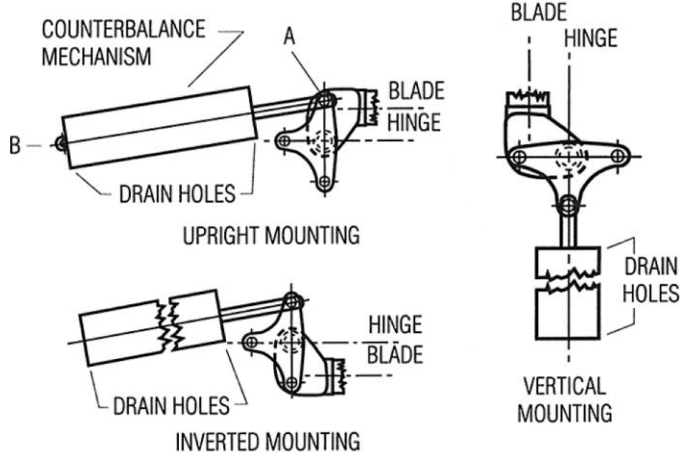

Fig. 18 Positions of Blade Counterbalance Mechanism
For voltage or current ratings in which blades are counterbalanced, Fig. 18 shows proper connections and the proper location of the drain holes for the various switch mountings. The counterbalances are assembled at the factory for the mounting positions as required for each installation. If it is necessary to change the mounting position of the switch in the field, the counterbalance position must be changed, as described below.
3. While maintaining a good hold on the blade with your hand, carefully open the blade a few more degrees or enough to relieve pressure. Remove pin A (Fig. 18) which attaches the plunger to the blade hinge casting. Since this pin is larger in diameter at the center and two shoulders hold it in place, the pin may be a bit difficult to remove.
4. Remove pin A (Fig. 18) which attaches the plunger to the blade hinge casting. Since this pin is larger in diameter at the center and two shoulders hold it in place, the pin may be a bit difficult to remove.
5. Remove pin B (Fig. 18) at the rear of the counterbalance. The unit is now freed to be inverted.